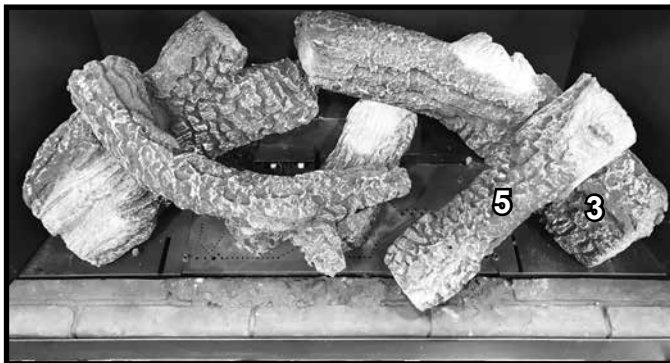

Figure 23. Log #5 Installed
**LOG #5:** The non-burnout end of Log #5 will sit on the flat spot of Log #3. The other end will sit against the edge of the base refractory grout line. See Figure 23.